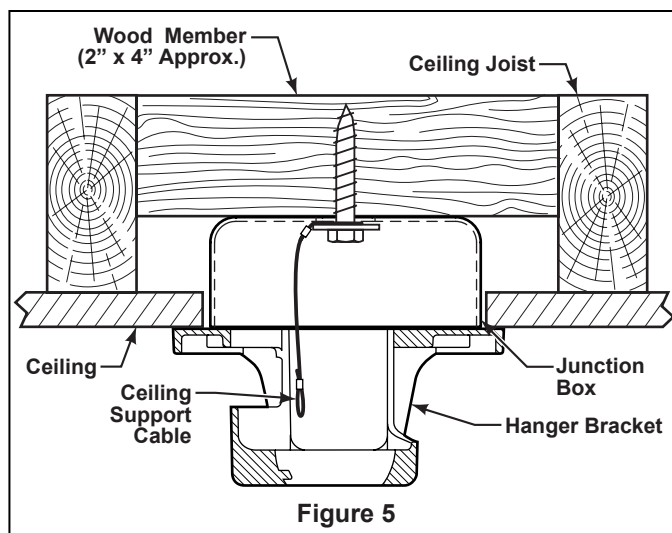

Figure 5
1. Securely attach the ceiling support cable to the ceiling joist or structural member using the  $\frac{3}{8}$ " x 2" lag bolt and flat washer. The lag bolt will pass through the flat washer, loop of the ceiling support cable, the outlet box and into the supporting member (Figure 5). You will first drill a  $\frac{1}{4}$ " pilot hole into the supporting member to prevent splitting or cracking.
**NOTE:** Ceiling support cable must be fastened between flat washer and junction box (Figure 5).